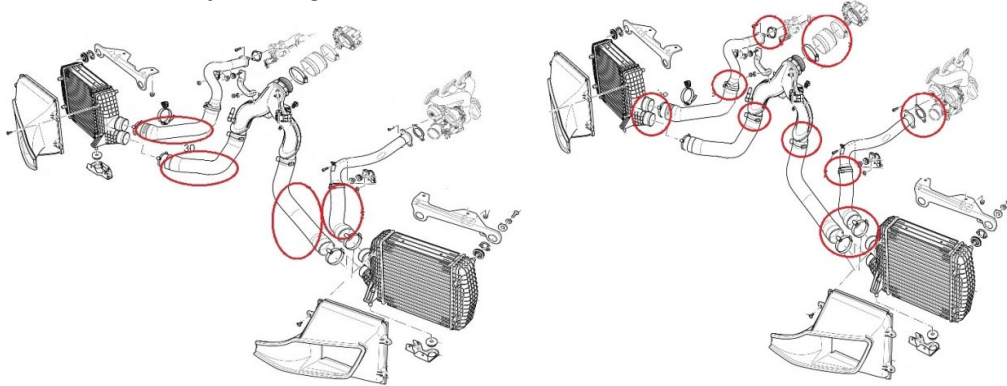

Figure 5: – Intake System
- 8) Check if there are any leaks in the intake and exhaust systems, if necessary use a smoke tester to check the highlighted areas below as shown in Fig.5. Verify that the V-Clamp in-between the turbocharger and the catalytic converter is correctly tightened and does not show any misalignment or exhaust leaks.